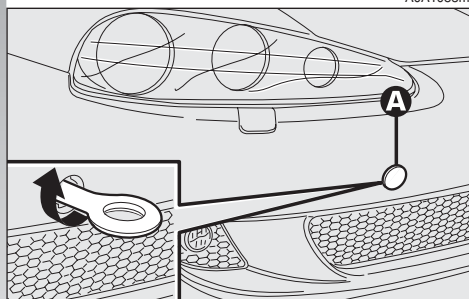

fig. 52
- Remove the cover (A) snap-fitted on the front (fig. 52) or rear bumper (fig. 53). To do this, if using the flat-bladed screwdriver provided, protect the tip with a soft cloth to avoid damaging the car.